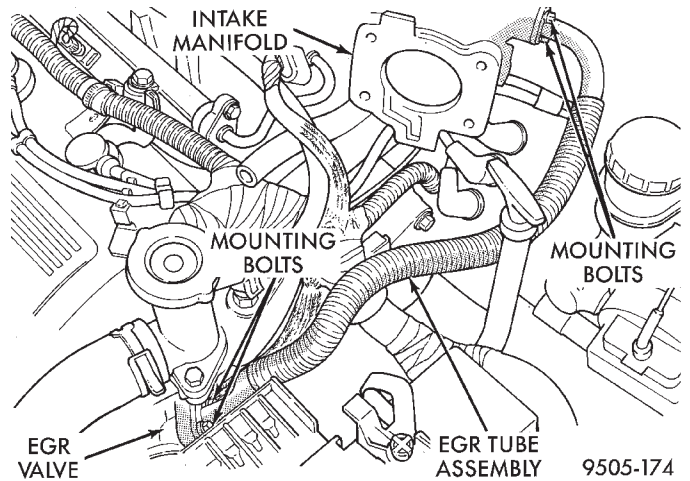

Fig. 105 EGR Tube Attachment To Intake Manifold And EGR Valve
(6) Remove the EGR tube (Fig. 105) from the intake manifold and EGR valve.
(14) Install the EGR tube with **NEW** gaskets on the intake manifold and EGR valve (Fig. 105). Install the 4 mounting bolts and tighten to a torque of 11 N·m (95 in. lbs.).